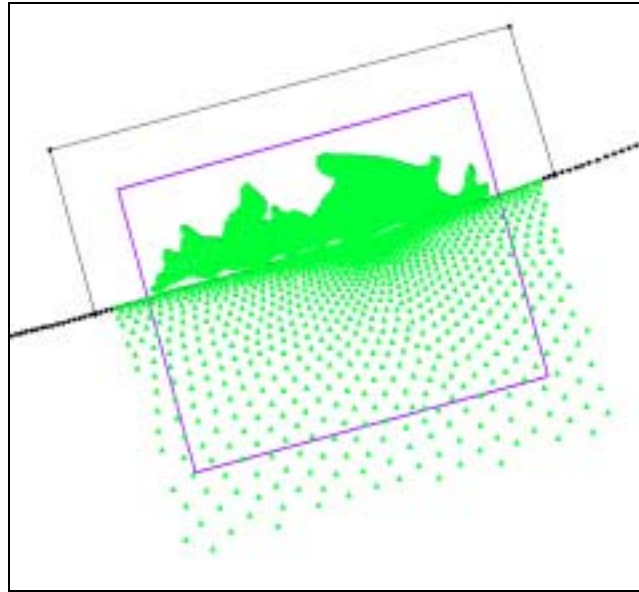

Figure 14-2. Arc created around border of grid frame.
4. Select the *Create Arcs*  tool and create arcs surrounding the left part of the grid frame (outside of the polygons created in Step 1). Click to begin an arc and click to create vertices. Double click to end the arc. Connect the arcs with vertices of the ocean polygon as shown in Figure 14-2. Make sure you click on a vertex to close the loop.